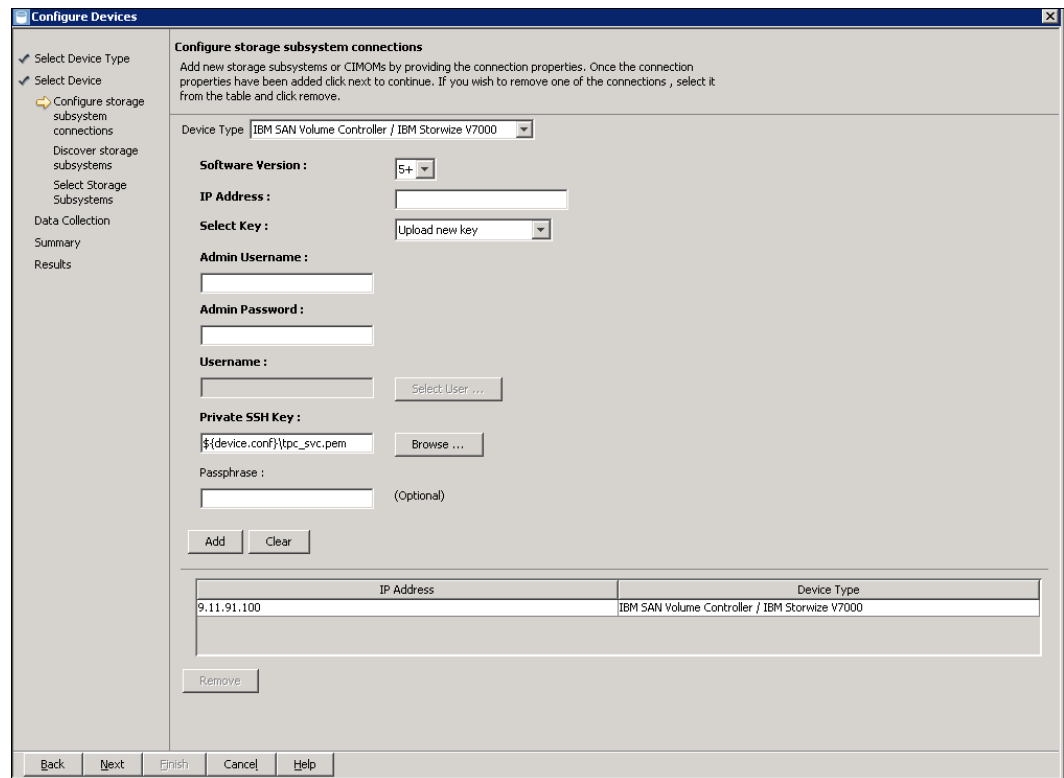

Figure 12-45 Configure storage subsystem connections: System discovered
7. Click **Add** to connect to your IBM Storwize V7000 system (Figure 12-45).